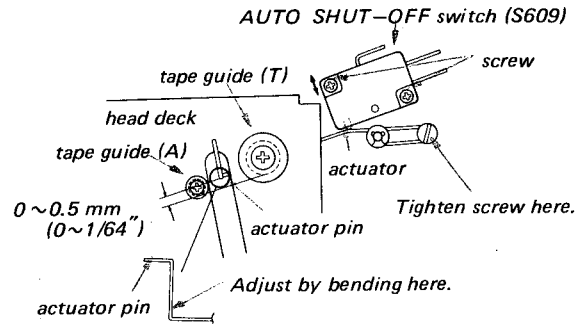

Fig. 3-4. AUTO SHUT-OFF switch (S609) position adjustment
2. Loosen the two microswitch holding screws. Adjust the position of the microswitch so that the switch is turned ON by the actuator pin at the position shown in Fig. 3-4.